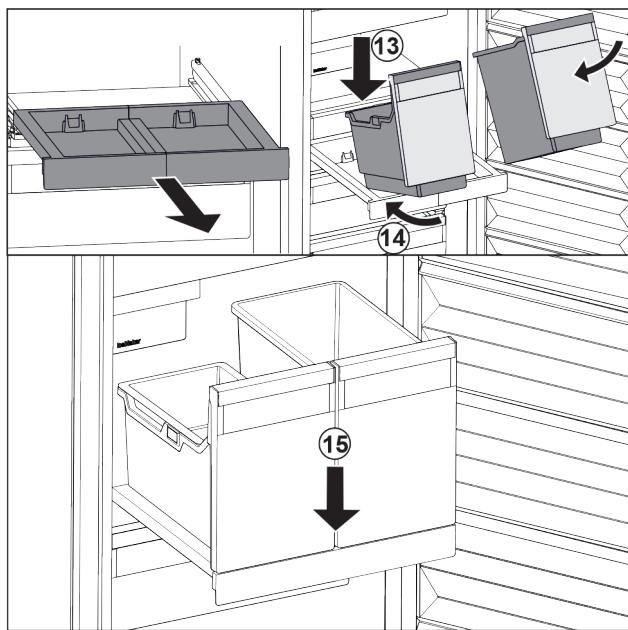

Fig. 102
- Place the container at an angle on the pull-out board. Fig. 102 (13)
- Slide in the container at an angle to the back. Fig. 102 (14)
- Place container at the front. Fig. 102 (15)